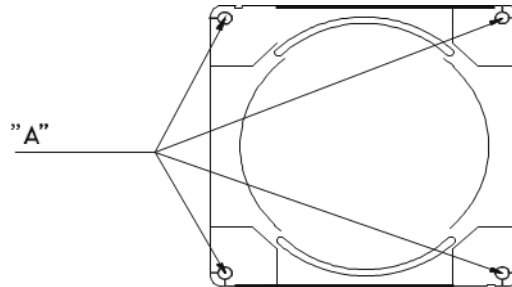
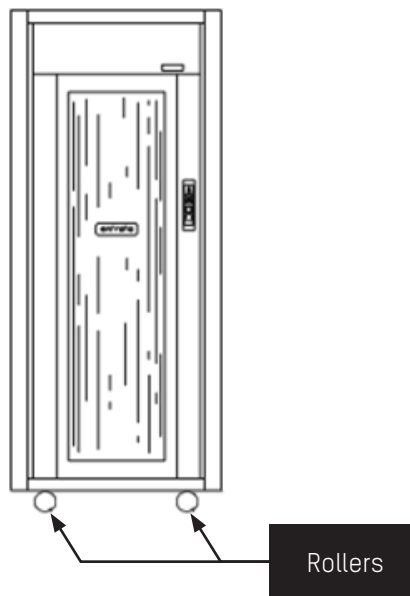

Fig. 17 - Positioning / Handling points
Fig. 18 - Positioning / Rollers
1. Put the booth in the chosen place, putting the external side towards the outside of the place. For the handling use a crane with minimum flow of 1500 kg, by using chains attached to the four upper edges "A" of the booth (⇒ Fig. 17), the crowbar on the bottom and the rollers under the base (⇒ Fig. 18).